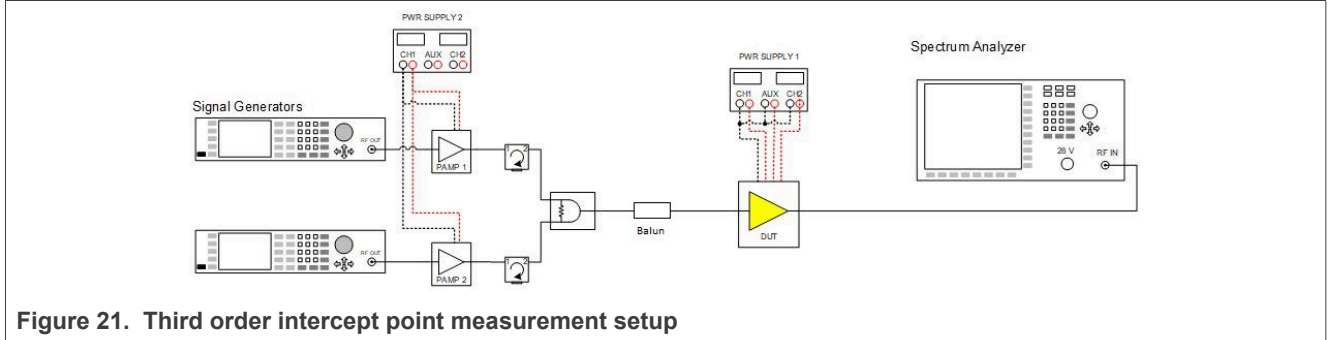

Figure 21. Third order intercept point measurement setup
IP_{3o} is measured using the setup shown in Figure 21.
5. Nonlinear distortion measurements IP3 can be performed with a set-up like is depicted in Figure 21. The following settings are recommended to perform the IP3 evaluation.